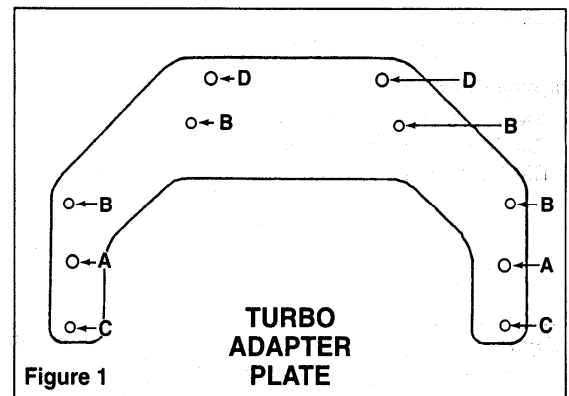

Figure 1
Step 1 Position the (E) adapter plate on the back of the engine with the attached nuts facing the engine. Align the "A" holes on the adapter plate over the engine dowel pins. (See **Figure 1** for location).
Step 2 In the boltholes marked "B" use the four- (4) OEM bolts to secure the transmission to the engine. All engine bolts should be torqued to 35 foot pounds.
Step 3 Use two (2) bolts and washers furnished in location "D" on the adapter plate. Use OEM bolts in location "C". All engine bolts are torque to 35 foot pounds.